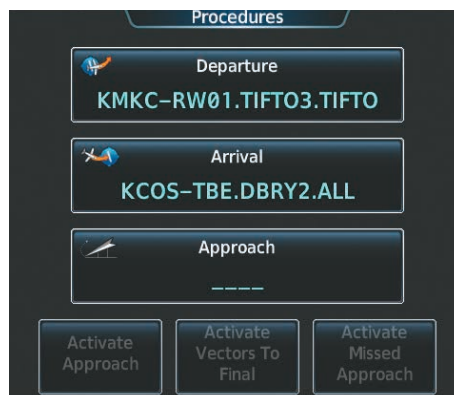

Figure 5-180 Procedures Screen
- a) From **Home**, touch the **PROC** Button. to display the Procedures Screen (Figure 5-180).